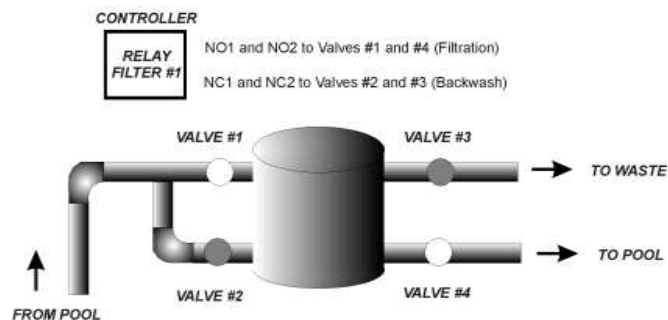

Figure 21 - Single Filter Backwash
As shown in Figure 21, single filter backwash is controlled with four valves that are connected to the Normally Open (NO) and Normally Closed (NC) poles of Filter Relay 1.